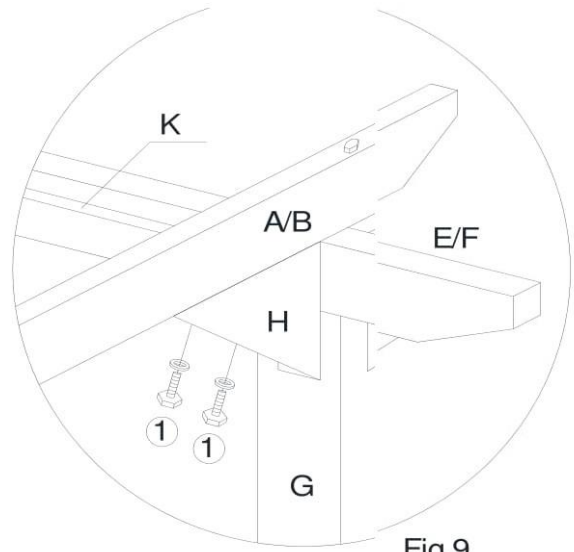

Fig.9
Attach Braces(H) to Outer Crossbars(A/B) using Bolts(1) with Wrench(5). (See Fig. 9)